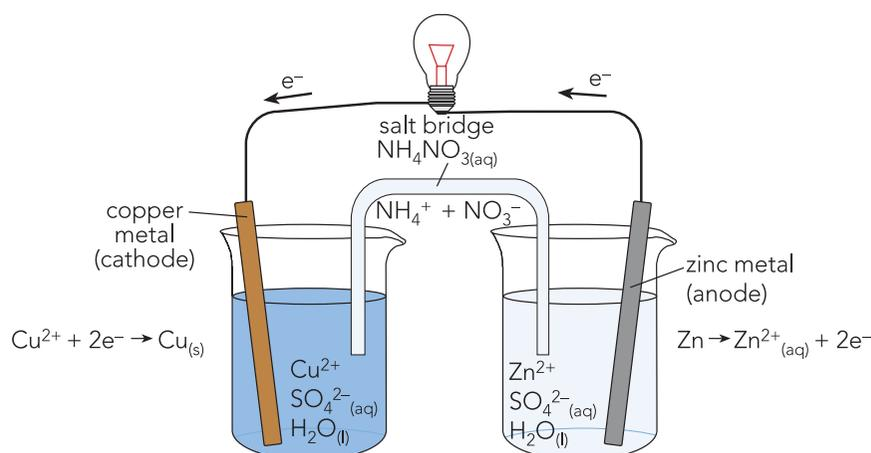

Figure 3.2 A laboratory version of the Daniell cell consisting of two half-cells, Zn/Zn²⁺ and Cu/Cu²⁺.
Refer to the Daniell cell in Figure 3.2 and answer the following.
e.g. for Daniell cell shown in Figure 3.2.